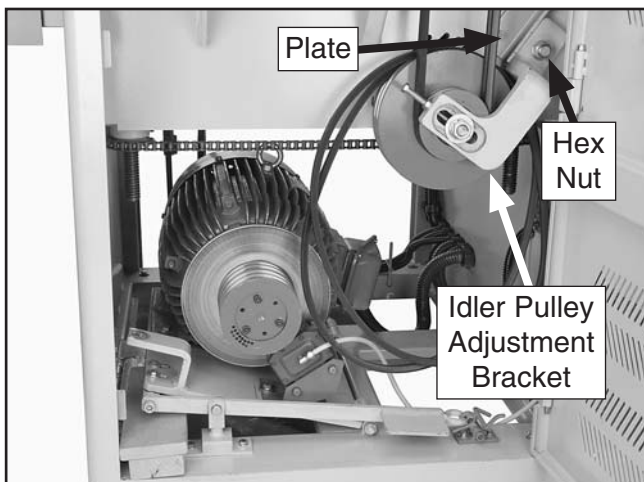

Figure 73. Location of hex nut securing idler adjustment bracket to frame.
- Remove the hex nut that secures the idler wheel adjustment bracket to the frame (**Figure 73**).
- Fasten the idler pulley bracket with the hex bolt removed earlier, making sure the bracket is flush with the plate shown in **Figure 73**.